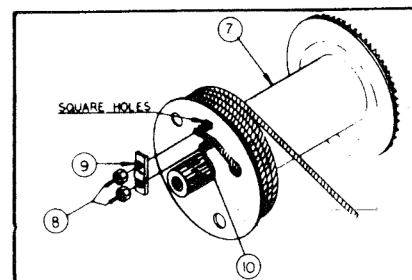

Fig. 2: Cable Installation
1. Feed cable onto top of drum (Item 7, Fig. 2). From inside drum, thread the cable through one round hole in the drum side, until it extends 1-1/2" past the two square holes.
2. Clamp the cable to the outside of the drum with keeper parts (Items 8,9,10, Fig. 2). Be sure that carriage bolt heads are on the inside of winch drum.